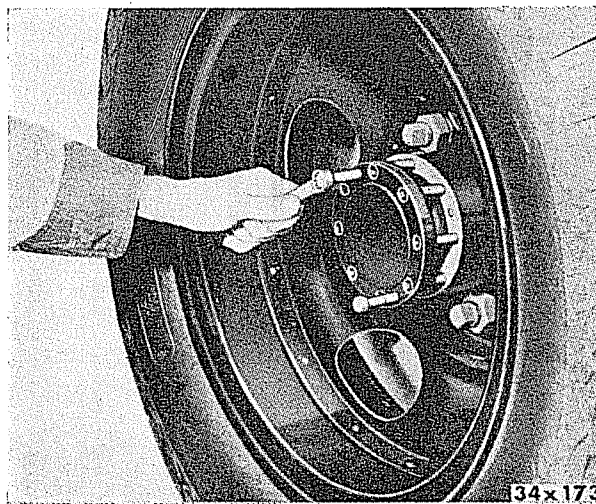

Fig. 30—Removing Axle Drive Shaft.
- (1) Remove axle drive shaft flange nuts and remove shaft, as shown in Figure 30.
- (1) Remove the axle drive flange nuts and withdraw the axle shafts. (Figure 30).